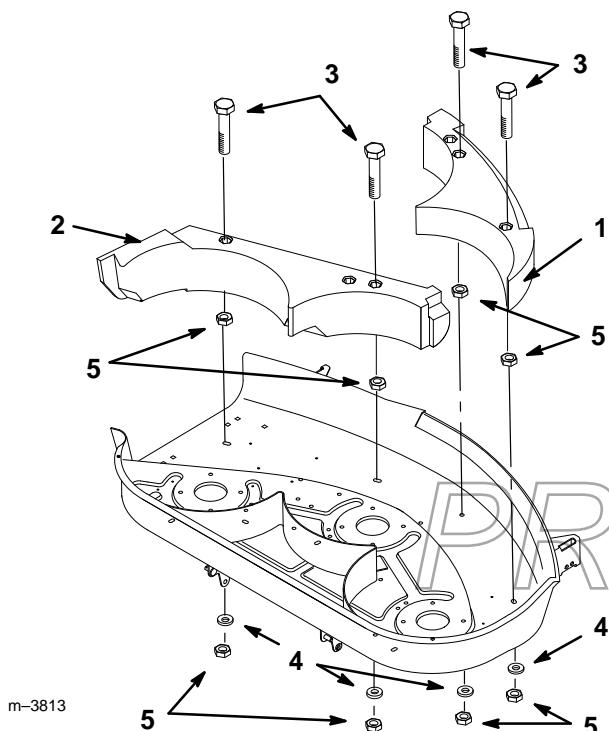

Figure 3
2. Place the left side baffle and the right side baffle inside the cutting chamber so the extended lugs are interlocked. Secure them with (4) 5/16" locknuts and (4) lock washers (Fig. 3).